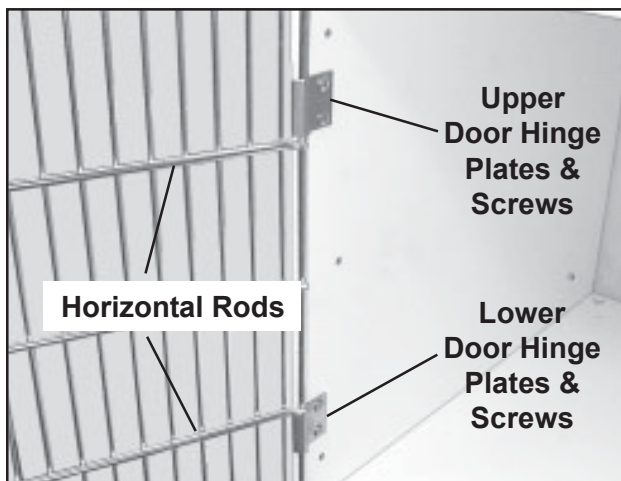

Figure 39. Upper & Lower Door Hinges
3. With a Phillips screwdriver, unscrew the two screws on the lower door hinges, and remove both hinge plates (Figures 39 and 40).
Note: When mounting the new door, the upper hinge should be just above the top horizontal door rod, and the lower hinge should be just below the bottom horizontal door rod (Figure 39).